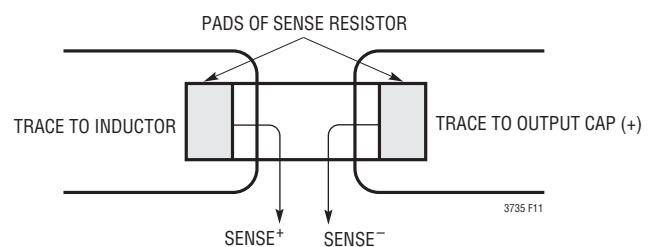

Figure 11. Proper Current Sense Connections
3) Are the  $SENSE^-$  and  $SENSE^+$  leads routed together with minimum PC trace spacing? The filter capacitors between  $SENSE^+$  and  $SENSE^-$  pin pairs should be as close as possible to the LTC3735. Ensure accurate current sensing with Kelvin connections at the current sense resistor. See Figure 11.